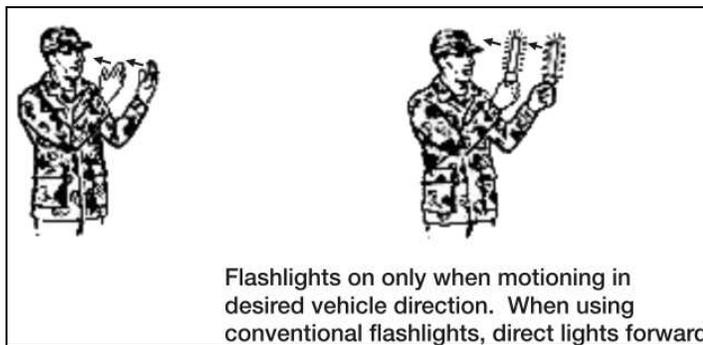

Figure 3-4. Come Ahead
3. Employ visual hand signals to guide vehicle movement (see Figures 3-4 through 3-23).